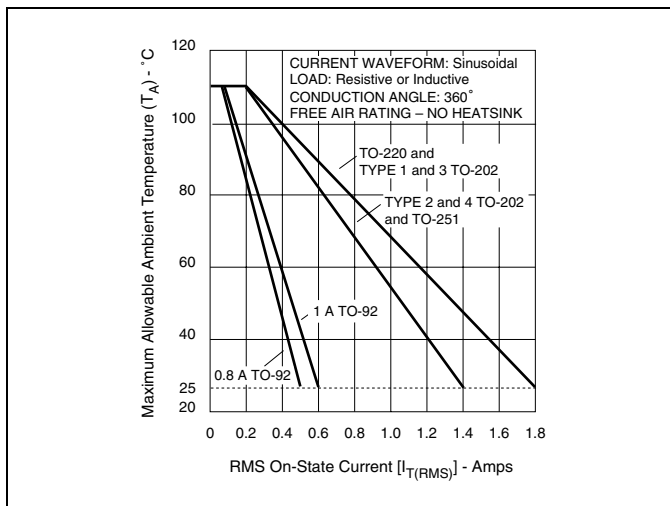

Figure E1.1 Maximum Allowable Ambient Temperature versus On-state Current
- (11) See Figure E1.1, Figure E1.2, and Figure E1.3 for  $T_A$  or  $T_C$  versus  $I_{T(RMS)}$ .
- (12) See package outlines for lead form configurations. When ordering special lead forming, add type number as suffix to part number.
- (13) Pulse width  $\leq 10\text{ }\mu\text{s}$
- (14)  $T_C$  or  $T_L = T_J$  for test conditions in off state
- (15) Minimum non-trigger  $V_{GT}$  at  $110\text{ }^\circ\text{C}$  is 0.2 V.